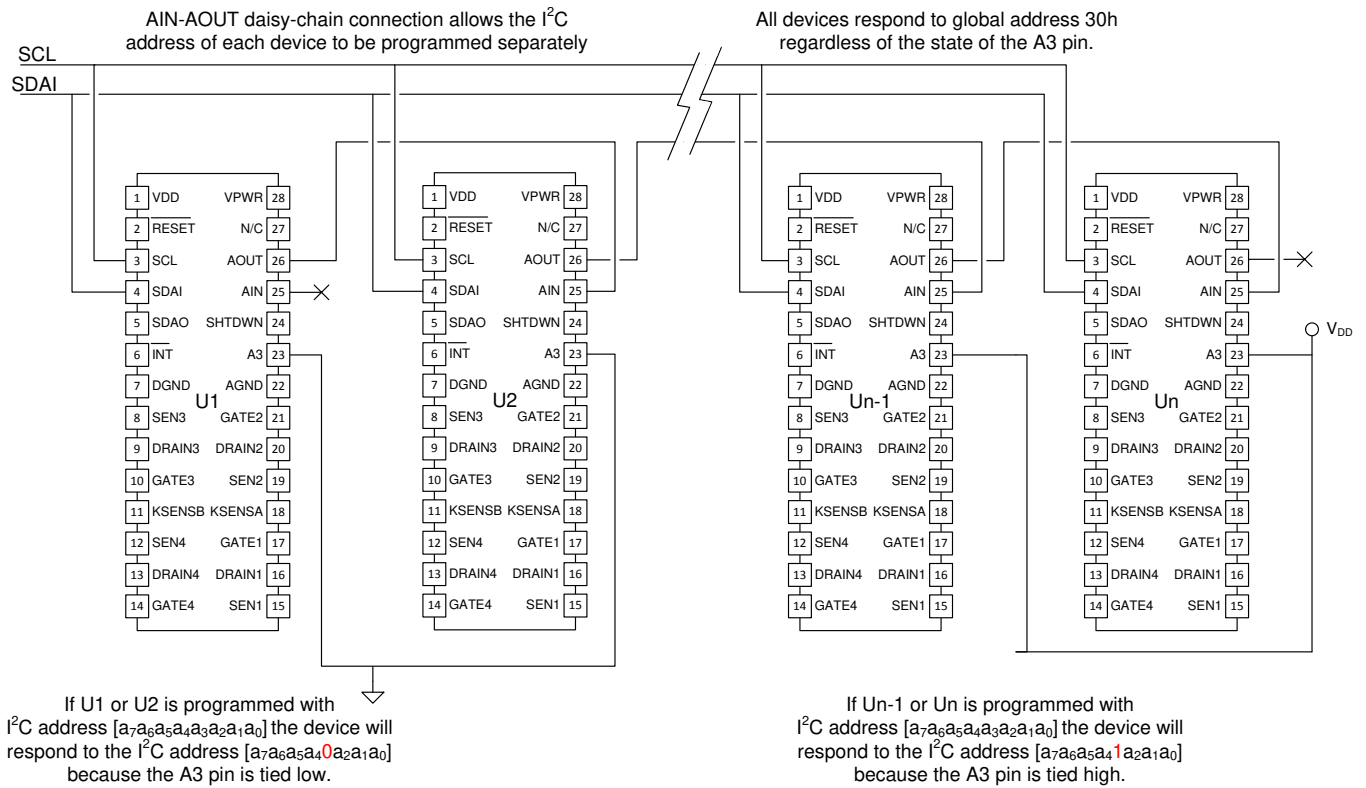

Figure 41. I2C Slave Address and AUTO Bit Programming Circuit
As shown in Figure 41, the initial I2C address programming access is established by a local daisy chain *chip select* connection between multiple TPS23861 devices. The AIN pin plays the role of a “moving chip select” during address programming.
- The first TPS23861 device being selected is the only one having its AIN pin at logic high level (U1 in Figure 41).